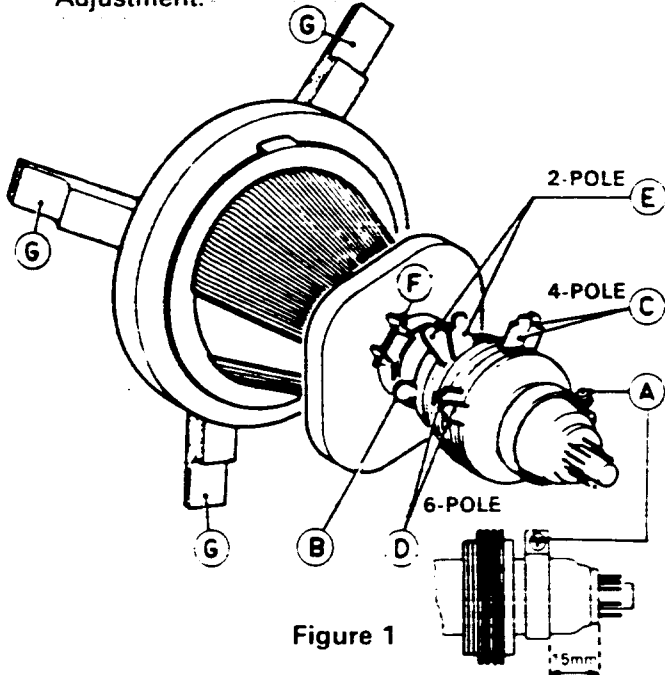

Figure 1
Color Purity Adjustment (Refer to Figure 1)
2. Remove the rubber wedges (G) and slide the yoke forward until it rests firmly against the bell of the CRT.
4. Place the multi-pole Purity and Convergence Assembly in the position shown in Figure 1.
5. Tighten screw (A) and turn securing ring (B) counter-clockwise. Position the unit so that it faces in an East/West direction and degauss the instrument.